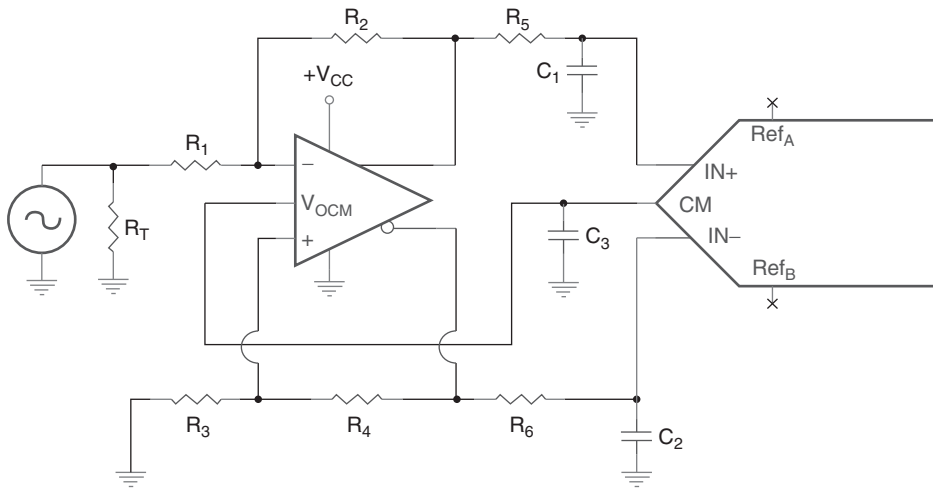

Figure 15.6: Single ended to fully differential DC coupled interface.
Figure 15.6 shows a more typical interface circuit. The input signal is referenced to ground, while the common mode operating point of the op amp interface is set by the data converter. The op amp interface can be run off of a single supply.
- If the input has to be terminated, as shown in Figure 15.6, the value of the termination resistor affects the values of the other resistors. This is covered in Section 11.6.